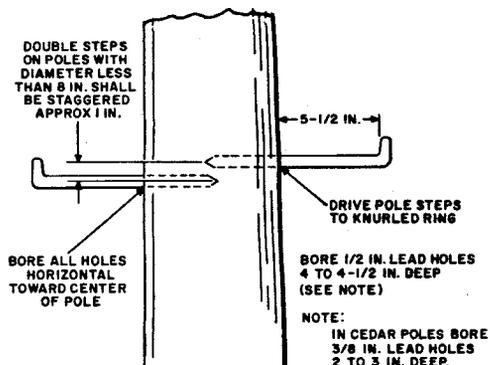

Fig. 3—Placing Pole Step (Permanent Type)
3.01 Place pole step (permanent type) as shown in Fig. 3.